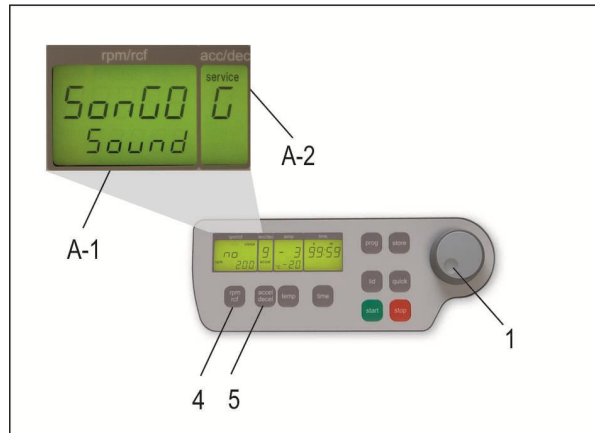

Figure 8
Proceed as described under point 1.8.2 to enter this program mode and then press the key „accel/decel“ (5). In the display „accel/decel“ (A-2) flashes the word „service“. Now select the letter „G“ with the adjusting knob (1). As a result appears in the display „rpm/rcf“ (A-1) the word „SonGo/Sound“. After pressing the key „rpm/rcf“ (4), you can select a song with the adjusting knob (1). (see figure 8).